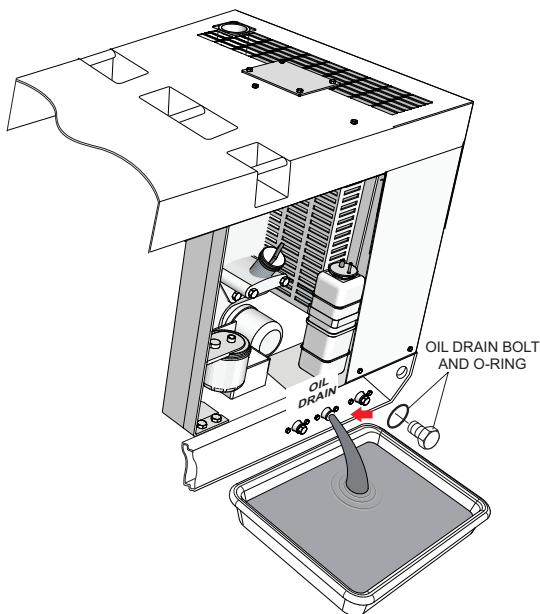

Figure 45. Draining The Engine Oil
3. Remove the **oil drain bolt** and **O-ring** (Figure 45), then allow the oil to drain into a suitable container.